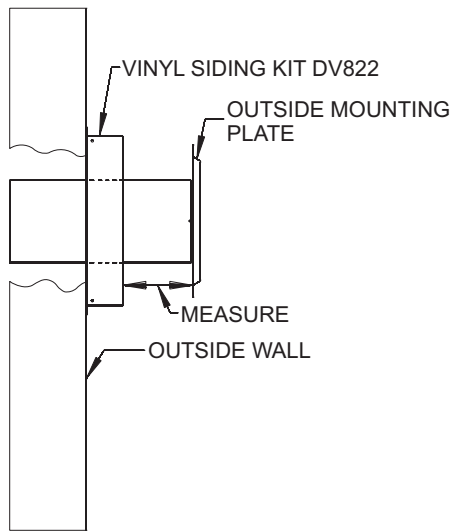

Figure 49
5. Attach the inlet tube to the outside mounting plate. Align tinnerman clips on the tabs of the air inlet tube to the holes on outside mounting plate, and fix with (2) #10 x 1/2" screws.
6. With the vinyl siding kit installed to wall (if necessary), insert the 6 5/8" (168 mm) diameter tube with outside mounting plate attached through hole in wall. Connect to collar on fireplace or rigid vent system. Measure between wall or vent cap extension and outside mounting plate (Figures 49 and 50).